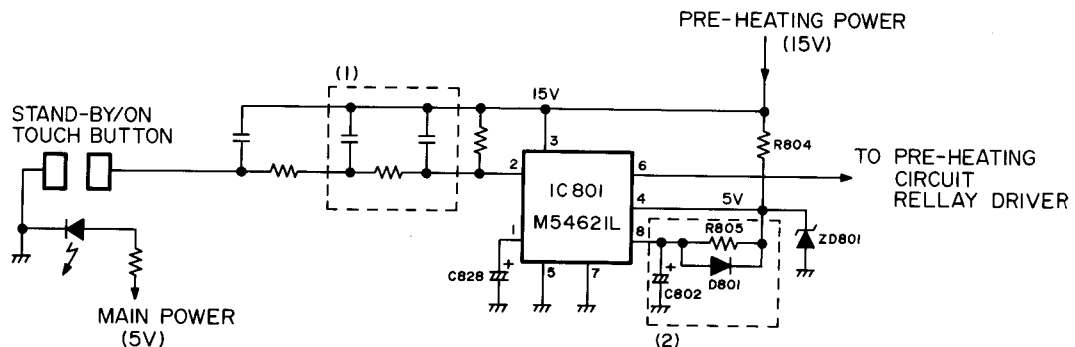

Figure 40-2
5.3.1 On/Stand-by Circuit (Refer to Figure 40-2)
The output pin (6) is turned on by touching the button once, and off by touching it twice. While the pin (6) is kept on, the PNP transistor of the auxiliary power supply section produces its base current to run in this pin (6) so that the relay is conducted turning on a main power. In Fig. 40-2, the part (1) indicated by dotted line refers to the CR filter which is to prevent mis-operation due to hum noises possibly caused when the touch button is operated, and the C828 is a capacitor to reduce chattering to the minimum. The circuit (2) indicated by dotted line is for the purpose to enable a stabilized reset operation when the auxiliary power is turned on. The R804 and ZD801 serve to apply a power of 5 V to the pin (4).